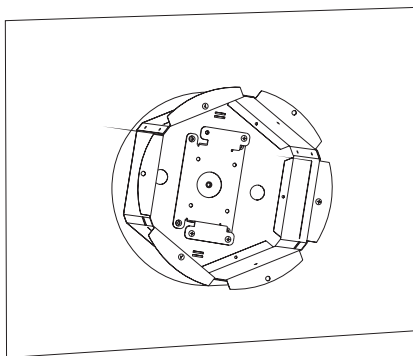

Figure 1
- Remove the trim ring/dome assembly by pulling on the outside of the trim ring. The ring and dome are connected by three flat springs, which press against the side of the housing and lock into (3) cutouts.
- With the support arms (3) rotated to the inside, slide the housing into the pre-cut hole (Figure 1).
- If the housing is going into a ceiling where the support arms will not work, secure the housing by running bolts into the solid ceiling through the mounting holes in the bottom flange (Figure 1).